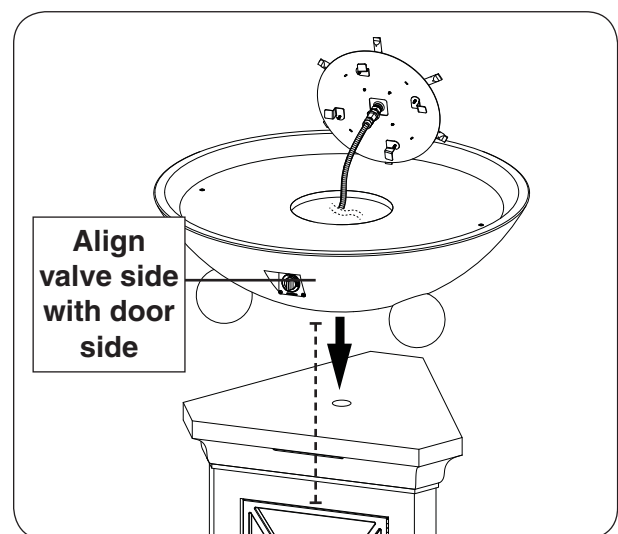

Fig. 27-4 Place bowl
2. **CAREFULLY** place the bowl onto the pedestal (see Fig. 27-4).